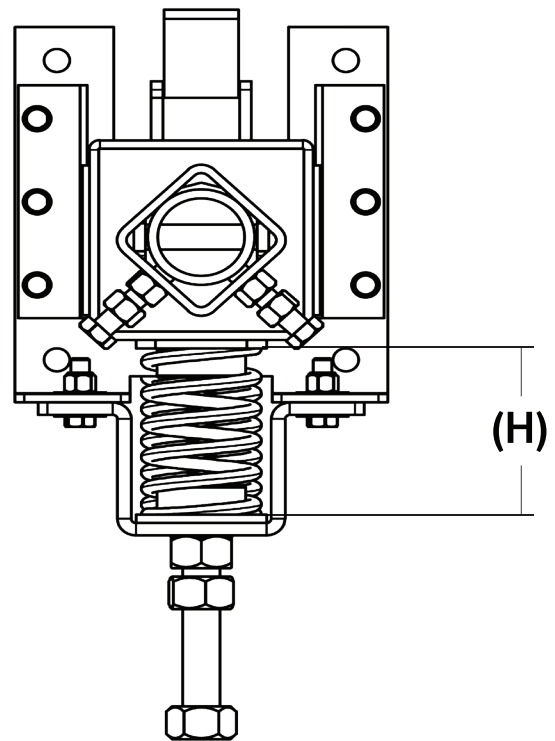

Figure 5. Spring Height (H)
- Once uniform blade/belt contact has been achieved, evenly raise the Slide Blocks causing the spring to load. Continue to tighten until sufficient upward force (blade pressure) has been achieved; see Table 1. Spring Height (H) is the suggested tension starting point. See Figure 5.